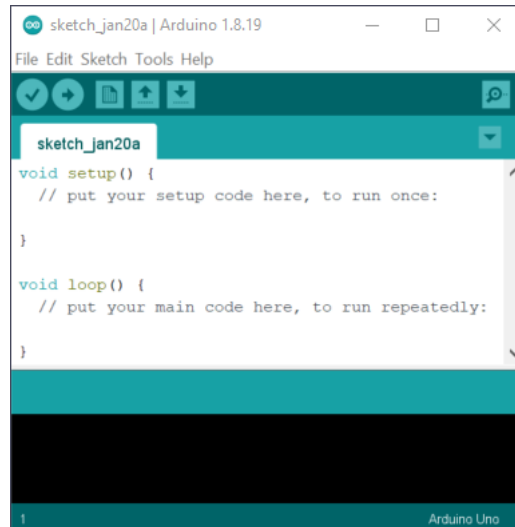

Figure 4.8: This is what the Arduino IDE should load up to.
6. It should load up with a window that looks like Figure 4.8.